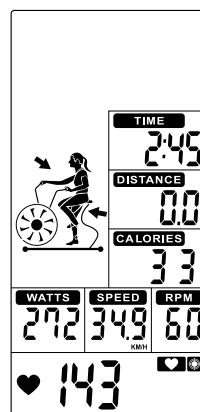

Figure 49
- ⑥ When Heart Rate goes between 65% ~ 85%, only **HEART** will flash (Figure 49).
- ⑦ No signal input for 30s, buzzer sounds 1 short beep and enter to Wake-up mode.
- ⑧ Press START button once enter into PAUSE mode, Buzzer will sound for 0.5s per second within 30s. All values are displaying on LCD and flashing in every 2s. If continue to stop training for 5 minutes, buzzer sounds 2s and enter to Wake-up mode. Press START to resume workout.